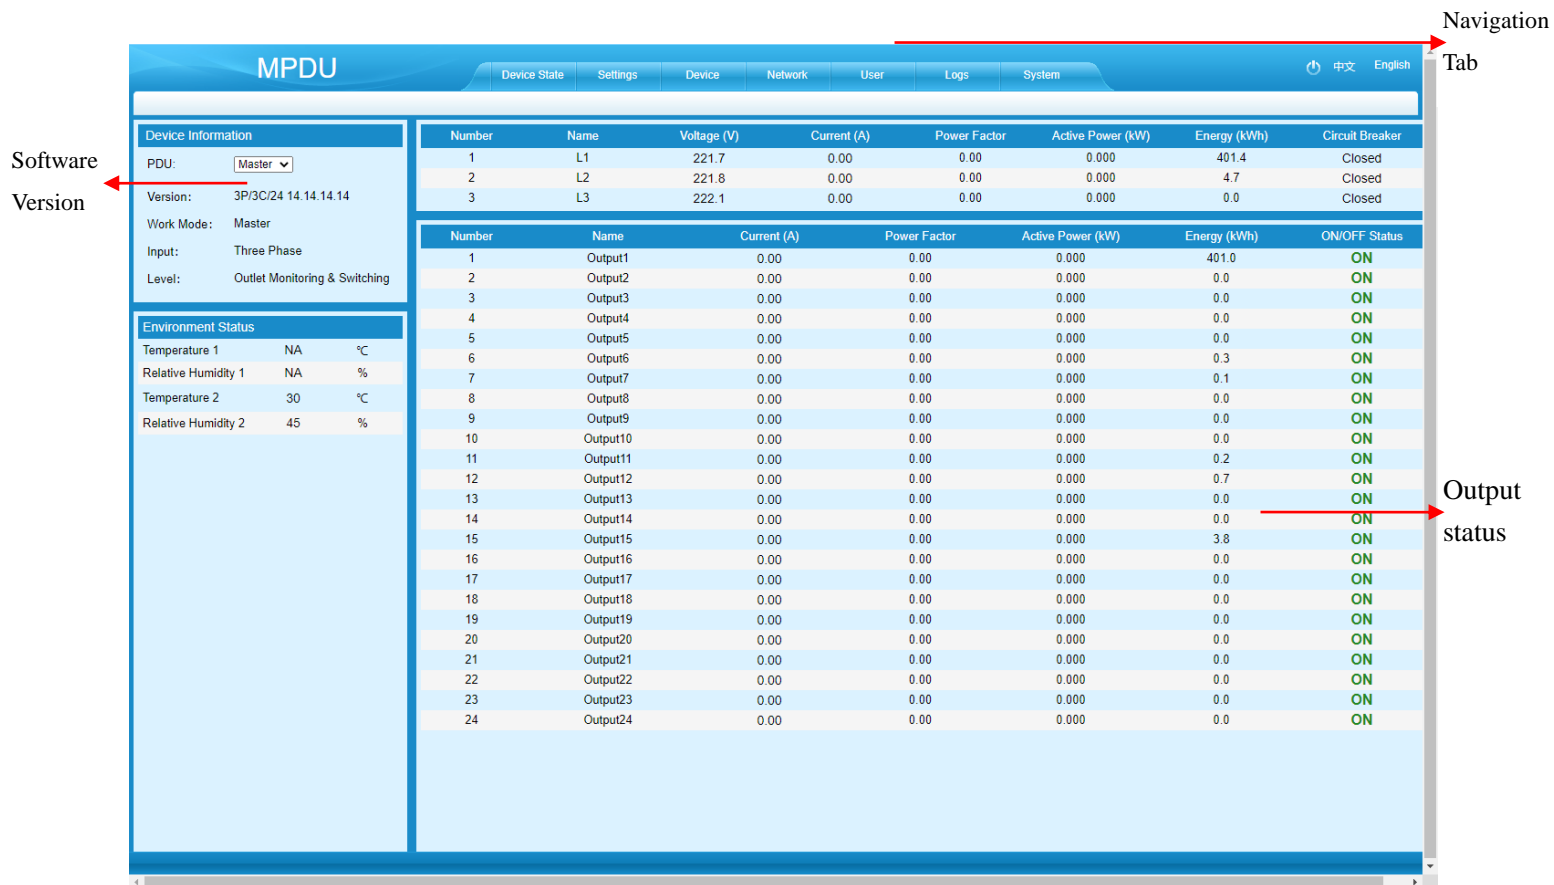

Figure 1-2
Fill in the correct user name and password (Factory default login name is admin, password is admin) to login the main interface. The main interface is designed with three major screen sections shown in the following screenshot as figure 1-2
A. Device Status: After enter Figure 1-2 you can view the monitoring information as below: